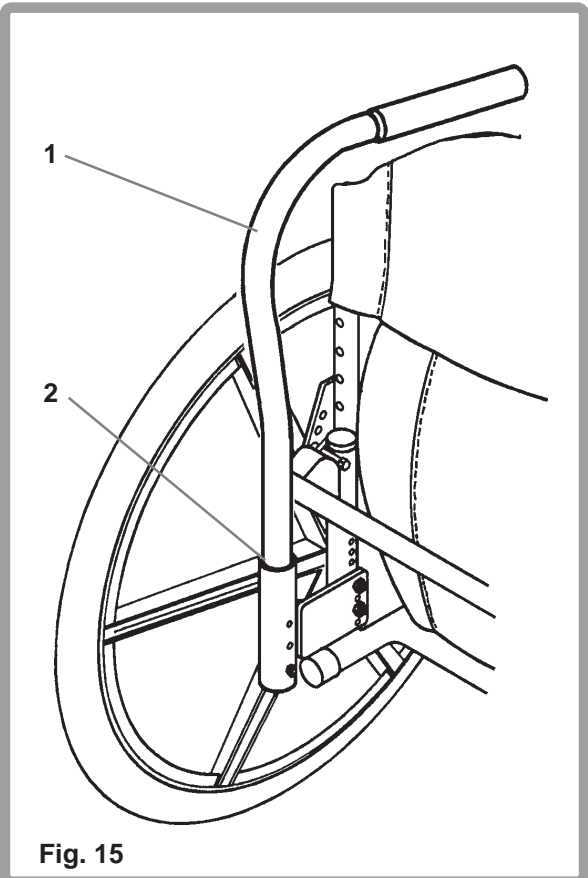

Fig. 15
Swing-away armrests can be detached or will swing away to allow side transfers. To remove the armrest (1), simply pull it upwards until it clears the receiver (2), as shown in Fig. 15. To replace the armrest slide it into the receiver, until you feel it locate at the bottom of the receiver. To rotate the armrest pull upwards approximately 25mm (1") and rotate it away from you. To return the armrest into its normal position, rotate it towards you until you feel it drop slightly and lock into position.